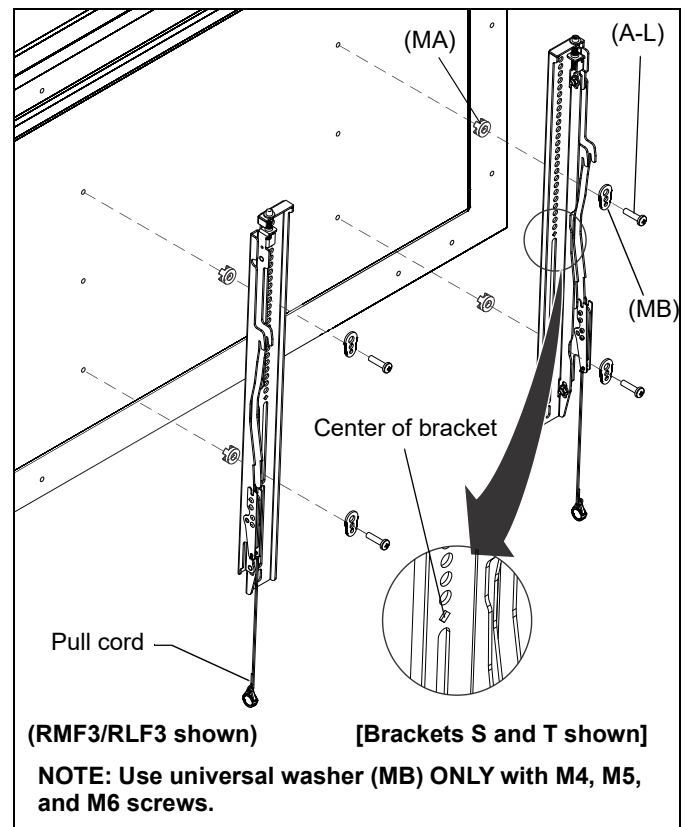

Figure 9
1. Align the center of the bracket (S and T or U and V) with center of screen. (See Figure 9)
2. Select correct screws, nesting spacers (if necessary) and universal washers (if required) from the hardware bag (A-L) and attach brackets to back of screen. (See Figure 9)